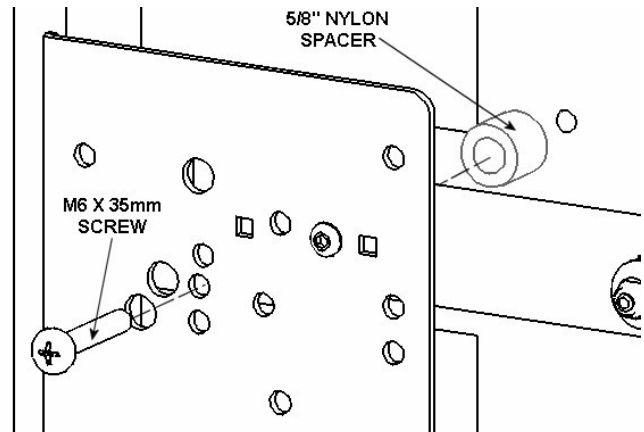
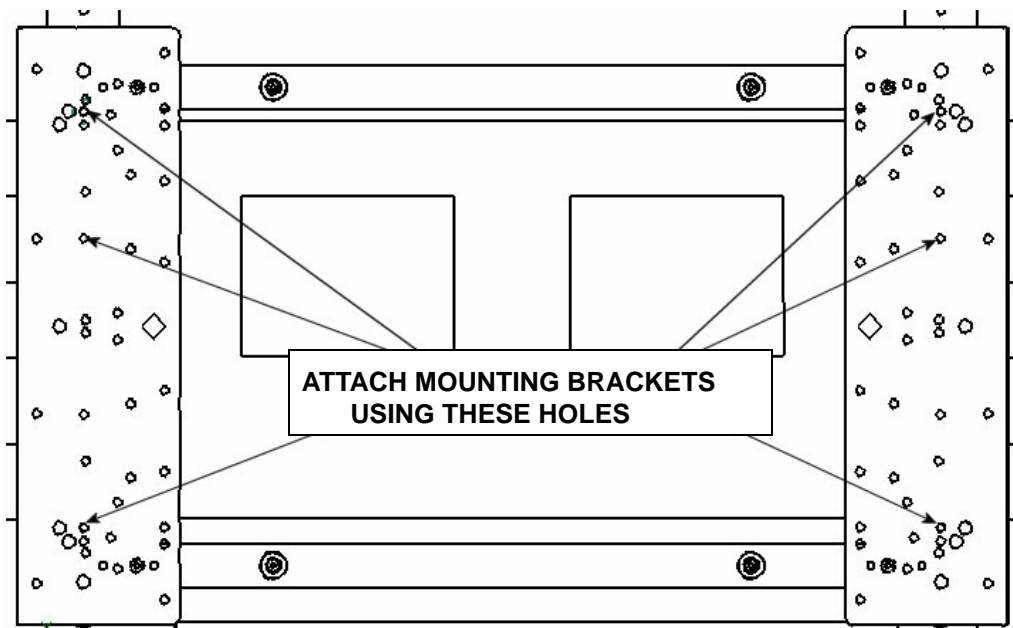

Figure 14. Spacer Installation for Group 5
Figure 15. Bracket Attachment for Group 5
4. Place the interface brackets over the Nylon spacers (see Figure 14 and Figure 15).
6. Using the hardware in the parts bag labeled C, attach the interface brackets to your display in the proper holes in each interface bracket (See Figure 14 and Figure 15). Do not overtighten the mounting screws.